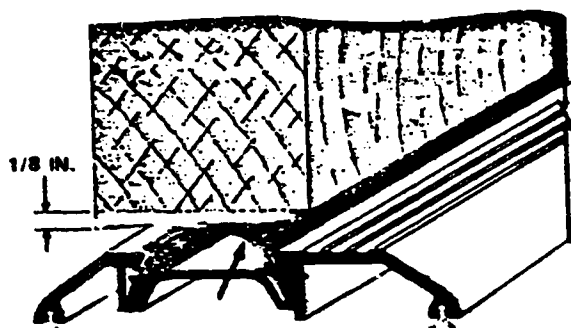

Figure 47. Bevel for Wood Doors.
(4) Warping. A warped door which has sprung inward or outward at the hinge edge is impossible to close without considerable pressure against the bulging part. If planing is necessary because side margins are uneven and door strikes at top or bottom due to settlement of frame or similar causes, locate points of friction. It is easier and less noticeable to plane the hinge edge. Bevel lock edge of door about  $3/16$ -inch to facilitate closing. When door face or casing is warped, or in other rare instances, this edge may require planing. Here it is best to make the cut before planing. Remove face plates and lock from the door; otherwise a true cut cannot be made. If the door still strikes along lock edge, plane hinge edge and cut in the hinge leaves flush with surface, if necessary.
(5) Sticking. Damp weather often causes a door to stick. Absorption of moisture results in swelling of framework and door and causes paint to soften and become sticky. If the door has an even margin along the top and bottom edges, and if the hinges are firm, it is necessary to plane the hinge edge. It is best to plane the hinge edge, since hinges are more easily removed and remortised than the lock. Take care not to plane off too much wood. Do not plane doors during damp weather, except where circumstances require immediate repairs. When it is necessary to trim a door for better fitting, carefully mark the amount to be planed, allowing clearance on all sides approximately the thickness of a dime. To determine correct amount of wood to be removed, set door hard against hinge side, wedge it plumb, and scribe desired thickness of material to be planed off. When planing or cutting is completed, repaint edges prior to rehanging the door.
(6) Bevel. Proper bevel for wood doors is about  $1/16$ " per 1" of door thickness. Doors  $1\ 3/8$ " or less do not required a bevel. (See Figure 47).